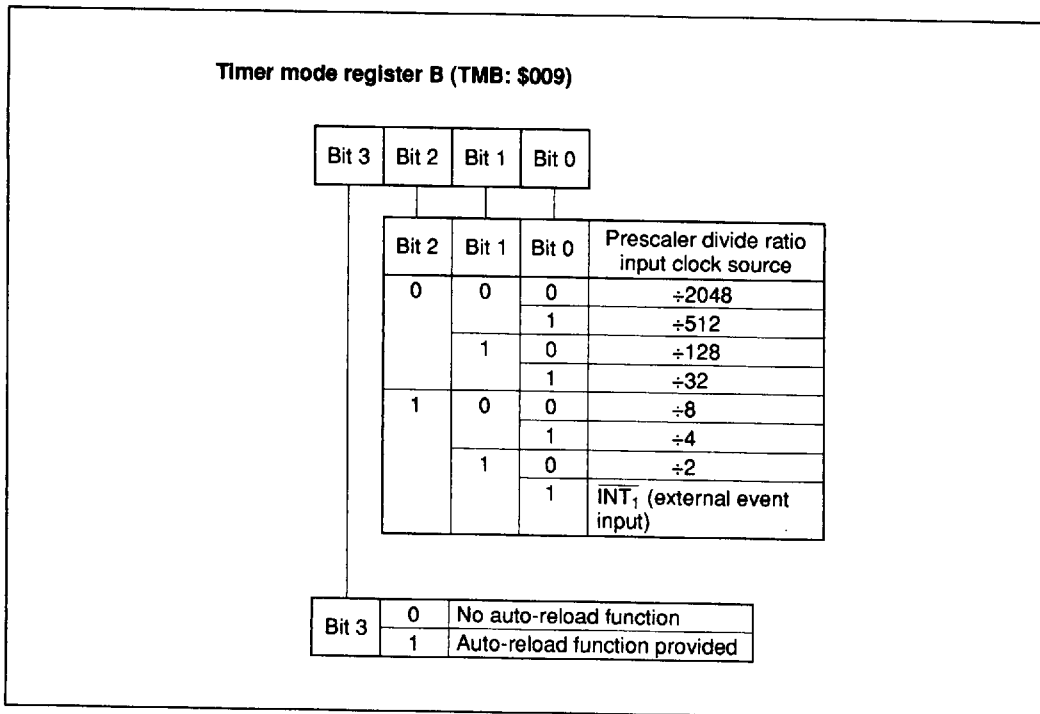

Figure 13 Timer Mode Register B Configuration
**Timer Mode Register B (TMB: \$009):** Timer mode register B is a 4-bit write-only register which selects the auto-reload function, the prescaler divide ratio, and the source of the clock input signal, as shown in figure 13. Timer mode register B is initialized to \$0 by MCU reset.